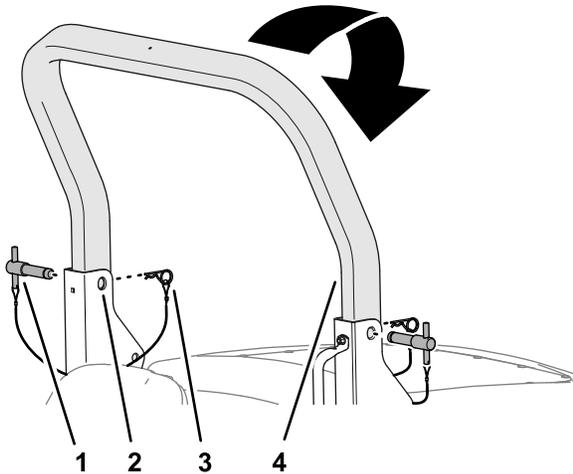

Figure 26
2. Remove the hairpins from the roll-bar pins in the pivot brackets of the lower roll-bar frame (Figure 26).
3. While supporting the weight of the upper roll bar, remove the roll-bar pins from the pivot brackets (Figure 26).